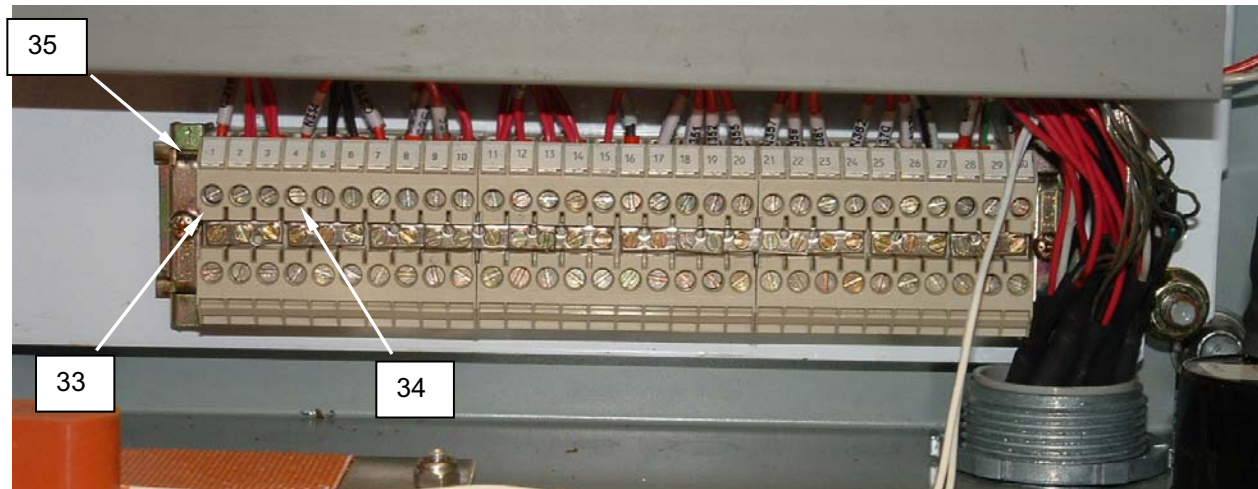

Figure 18. Test the Control Transformer.
2. Locate terminals 1 (**Figure 18, Item 33**) and 4 (**Figure 18, Item 34**) on the terminal block (**Figure 18, Item 35**).
3. Use a voltmeter to test for 24 VAC between terminals 1 (**Figure 18, Item 33**) and 4 (**Figure 18, Item 34**) on the terminal block (**Figure 18, Item 35**).